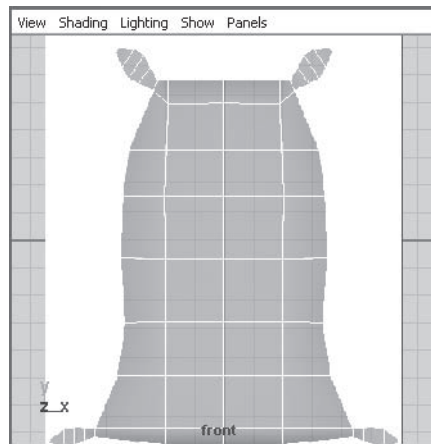

FIGURE 3.54 Sack image plane in the front view.
6. Open the file called sack_front.tif from the chapter3, Image_Planes folder on the CD-ROM (see Figure 3.54).